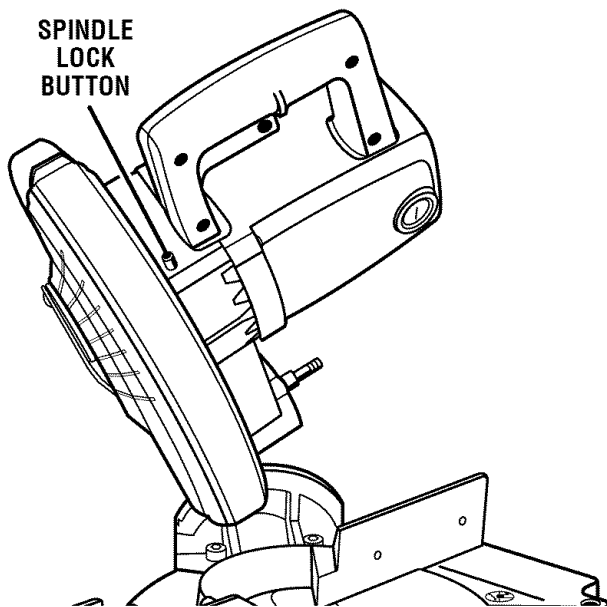

Fig. 14
- Depress spindle lock button and replace blade bolt. *See Figure 14.*